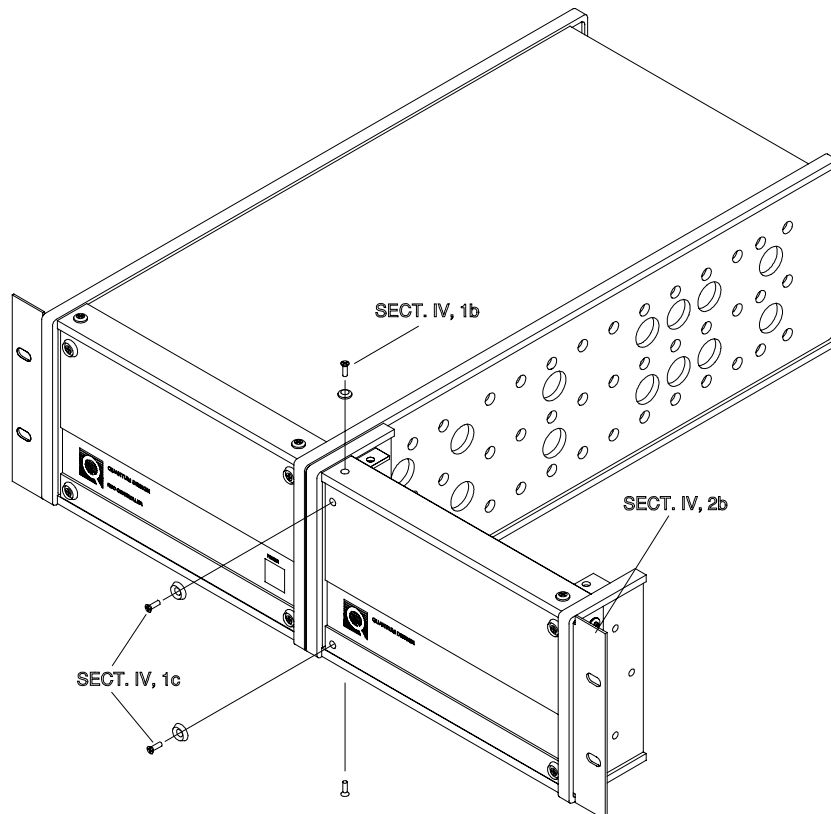

Figure 12. Install the full rack mounting adapter next to the RSO controller as shown.
1. Install the full rack-mounting adapter next to the RSO controller faceplate (**Figure 12**). The hardware required is found in the bag labeled *RSO Full Rack Mounting Hardware*.
- b) Insert screws through the holes in the top and bottom moldings (**Figure 12**) and screw them part way in, but do not tighten them.